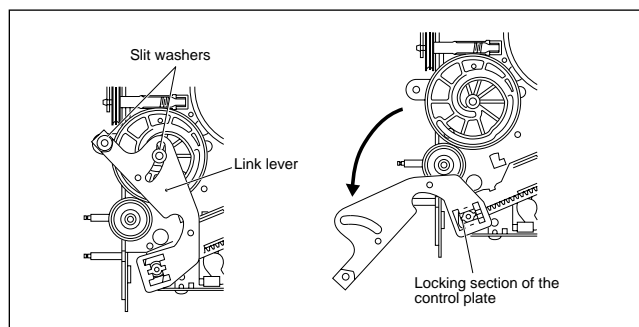

Fig. 2-2-13a
- (3) Insert the link lever into the locking section of the control plate. (See Fig.2-2-13a.)
- (4) Rotate the link lever clockwise so that it is installed on the shafts in the center (centre) and on the left of the control cam.
- (5) Fasten the slit washers at these two points.